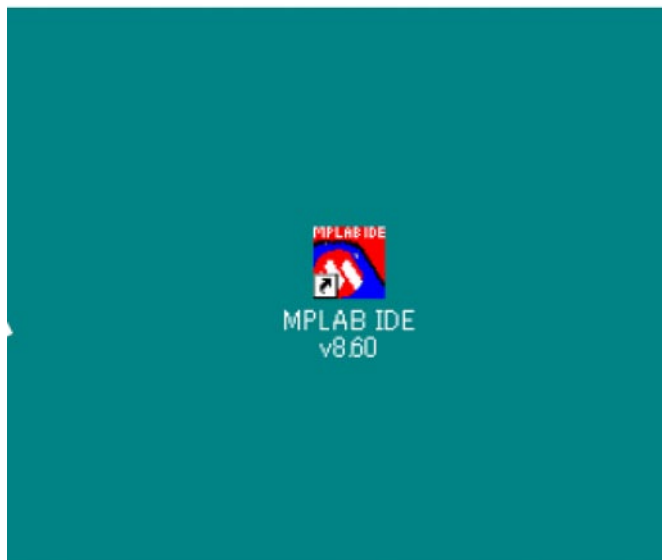

Fig. 3
- (1) Supply DC 15V to ICD3 from AC adapter.
- (2) Start up "MPLAB IDE v.8.\*\*.exe" (Fig. 3)